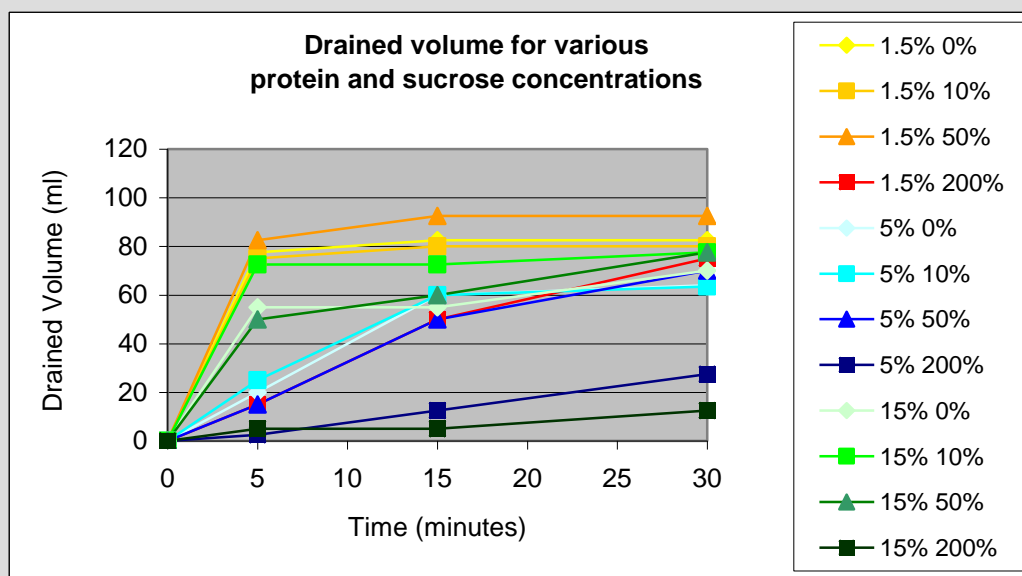

Figure 63 Drainage in the meringue
4. In figure 63 the amount of drainage from the meringue is plotted against time. Different concentrations of protein and saccharose are used. (In the first column behind the symbol is the protein concentration – from top to bottom from 1.5 to 15% - and in the second column the sugar concentration – from top to bottom from 0 to 200%). Which foam stayed stable for longest? See also Figure 51 for a photo of the 'meringues' that are produced from the various protein and sucrose concentrations.